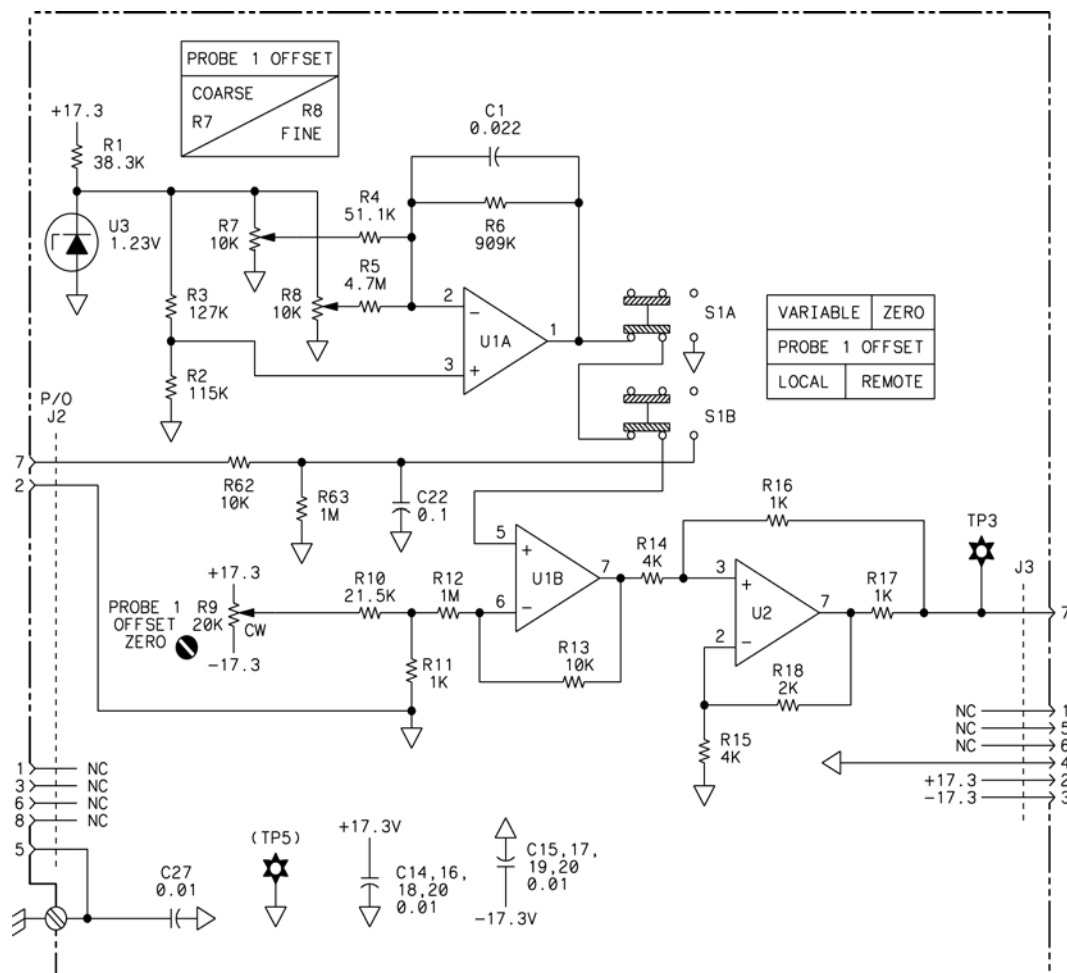

Figure 11 Schematic 3. Probe 1 Offset Control
- **Figure 11**, “Schematic 3. Probe 1 Offset Control,” on page 55
The probe 1 and probe 2 offset circuits are virtually identical. The probe 1 circuit will be described. When reading this section, refer to **Figure 11**, “Schematic 3. Probe 1 Offset Control,” on page 55.